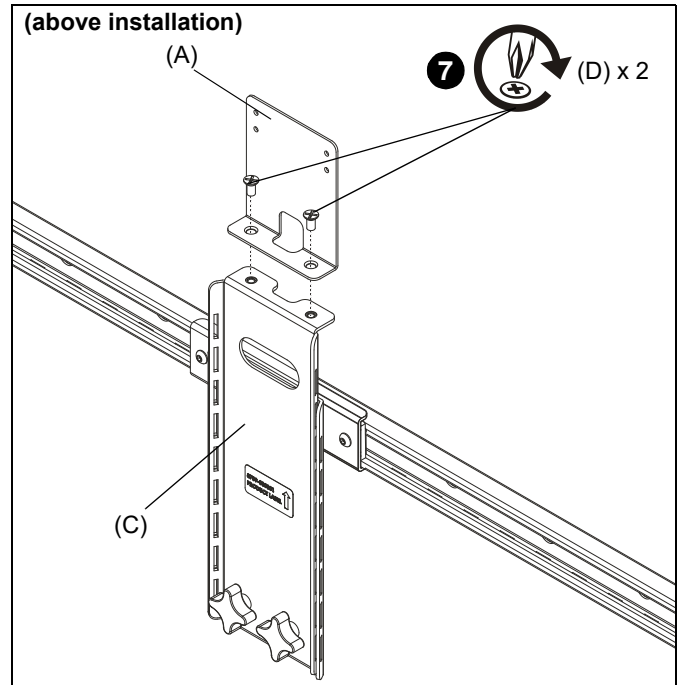

Figure 7
7. Use two 1/4-20 x 1/4" Phillips flat head screws (D) to secure adapter bracket (B) to height-adjustable bracket (C). (See Figure 7)